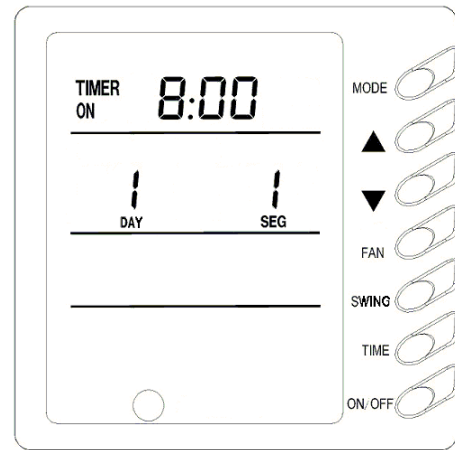

Fig.12
- ❖ In timing setting mode, press MODE button to select any desired setting object: Week (1-7), timer interval (1-4), timing (Timer on or Timer off time), min. part or hour part of time, and then press ▲ or ▼ button to adjust this object, which is fixed by pressing TIMER button or can be canceled by pressing Timer again. During fixing setting there must be blinking characters. During canceling setting, if there are also blinking characters, setting can be continuous till quit It by pressing ON/OFF button; meanwhile, timing data are memorized. (Fig.12, 13)